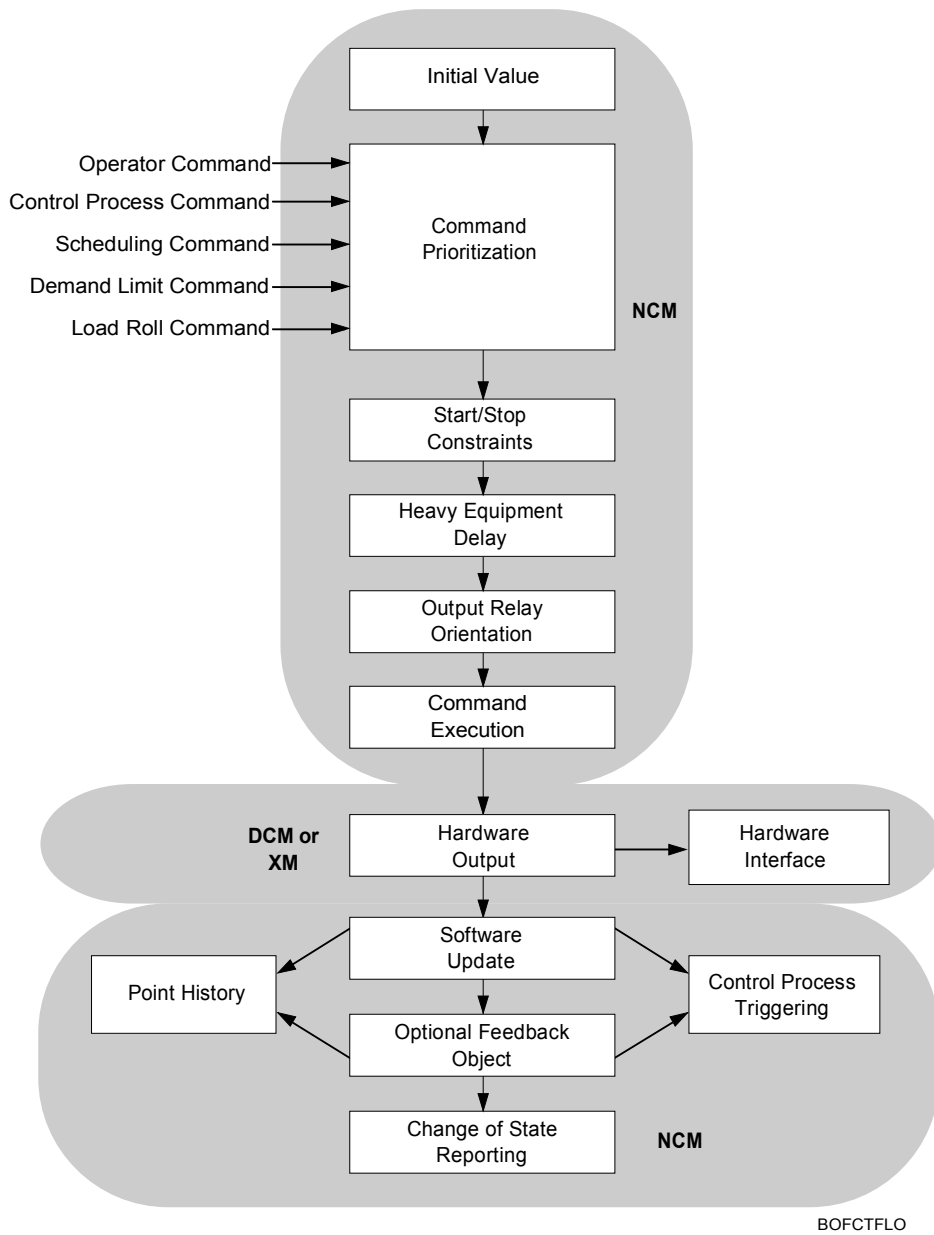

Figure 17: BO Functional Flow
Figure 17 shows the functional flow of how the BO object operates. For more information, see the *Metasys Network Technical Manual, Software Data Sheets, Binary Output (BO) Technical Bulletin*.